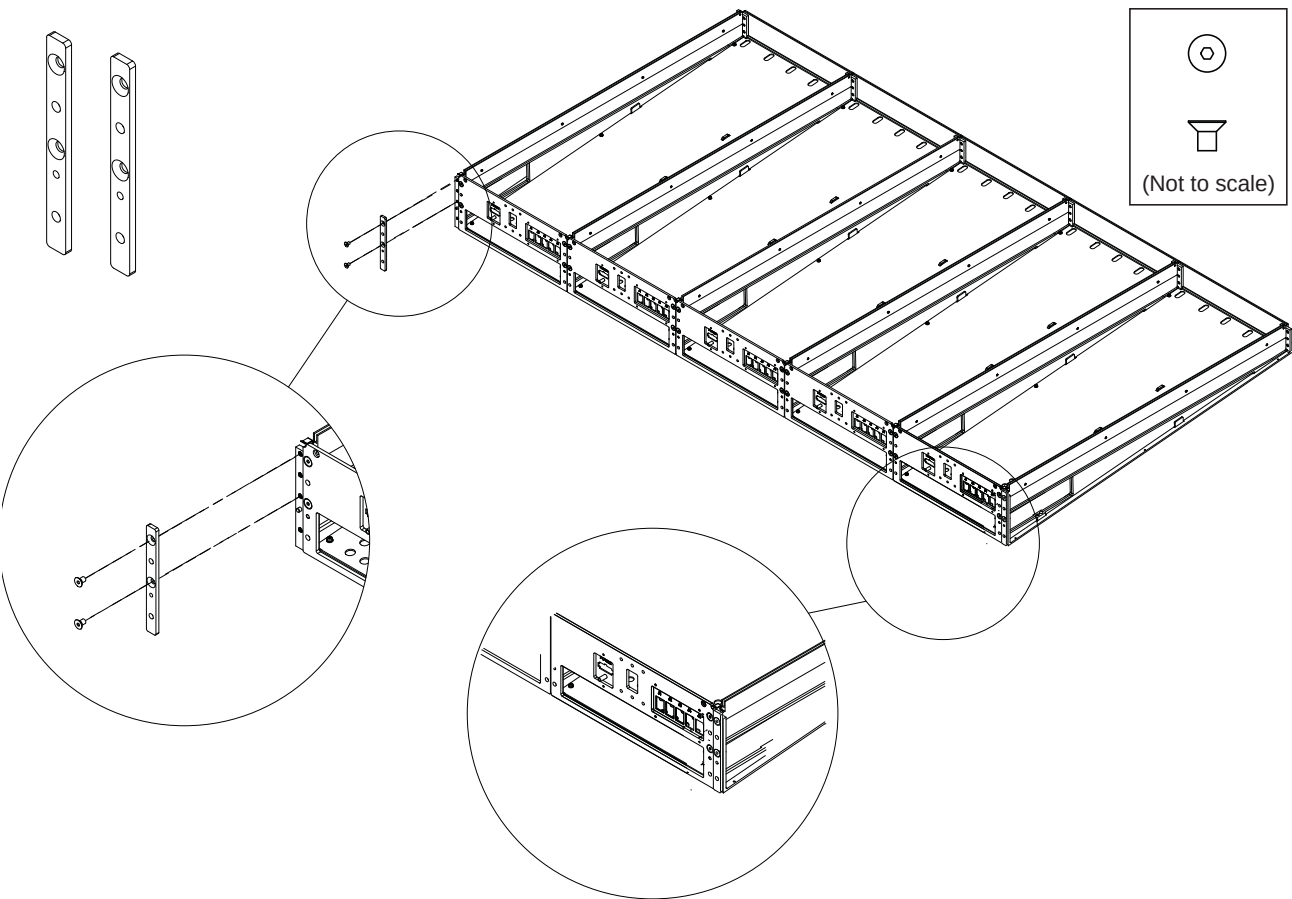

Figure 21. Back Foot Mounting Spacer Bars (upper left), and attaching the Back Foot Mounting Spacer bars
- 2 Standing at the back of the frame, attach one Spacer bar to the left and right back corners of the frame using two Hex fasteners per bar as shown in Figure 21. Make sure to orient the Spacers correctly.